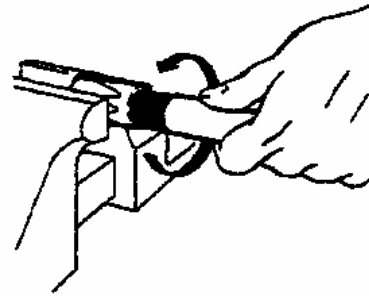

Figure 5. High-Pressure Hose Insertion
j. Screw hose counterclockwise into socket (Figure 5) with a twisting, pushing motion until hose bottoms on socket shoulder.
- g. Screw hose counterclockwise into socket (Figure 5) with a twisting, pushing motion until hose bottoms on socket shoulder.